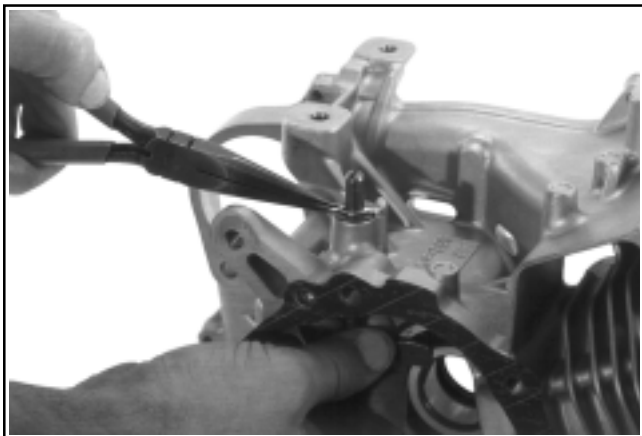

Figure 9-86. Removing Governor Cross Shaft Hitch Pin.
1. Remove the hitch pin and plain washer from the governor cross shaft. See Figure 9-86.